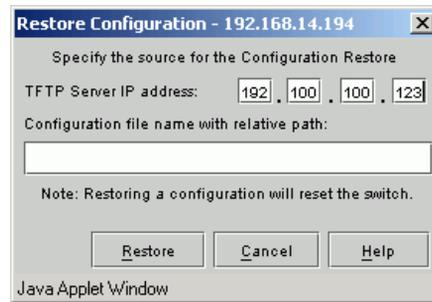

Figure 7-5 Restore Configuration Dialog Box
1. Select *File>Configuration>Restore* to display the *Restore Configuration* dialog box (Figure 7-5 on page 7-13).